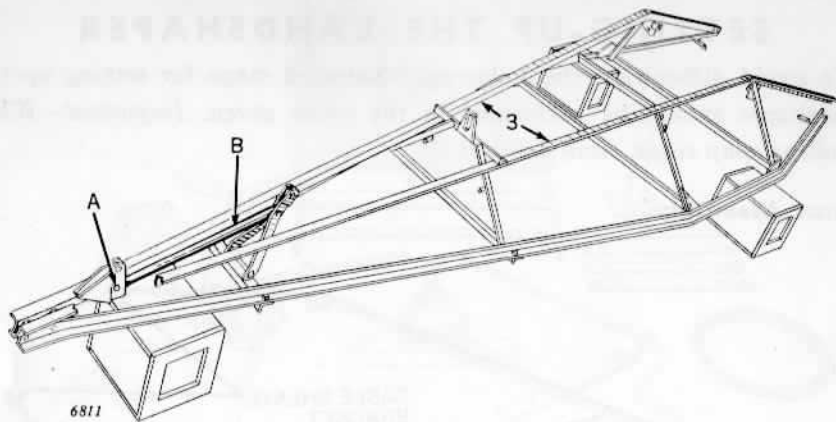

Figure 12—Top Angles Installed
3. Install two top angles (Bundle AC3101Y). *NOTE: Short pin "A", (which has no snap ring grooves) and strut "B", Figure 12, must be installed before the frame bolts are tightened and before the hitch assembly is installed. (The short pin and the strut are packed in the box.)*